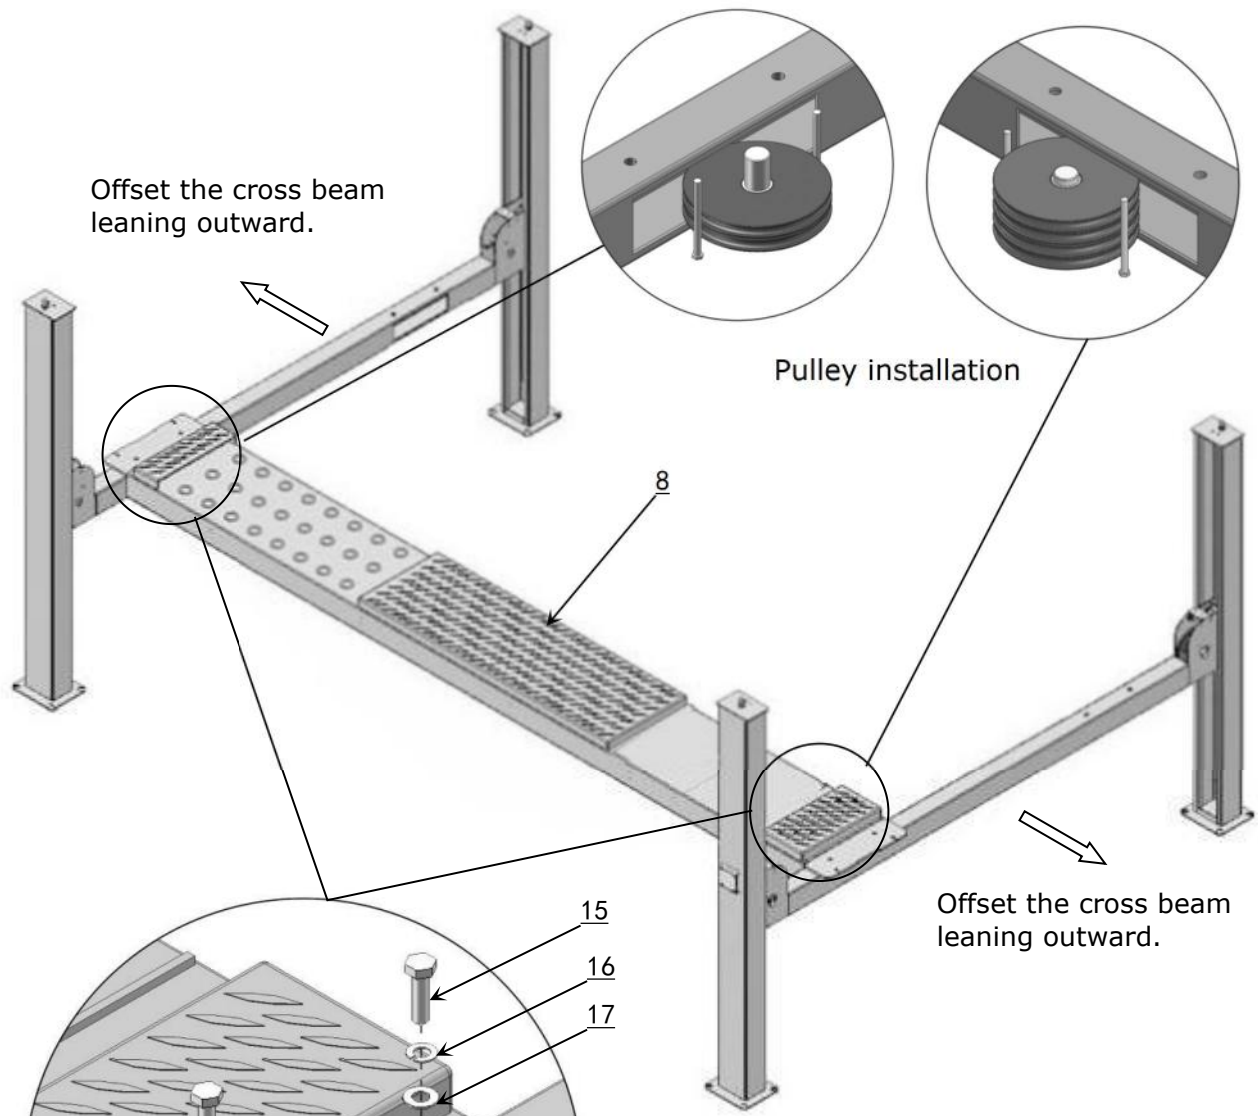

Fig. 20
1. Put the power side platform upon the cross beams by fork lift or manual, offset the cross beams to the outside till the pulleys of both platforms can set up into the cross beam (See Fig.20), Install the power side platform and screw up the bolts. (See Fig.21)